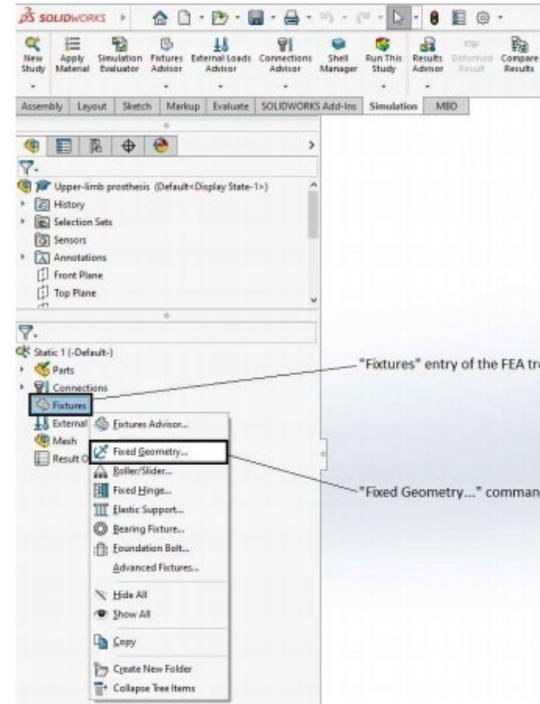
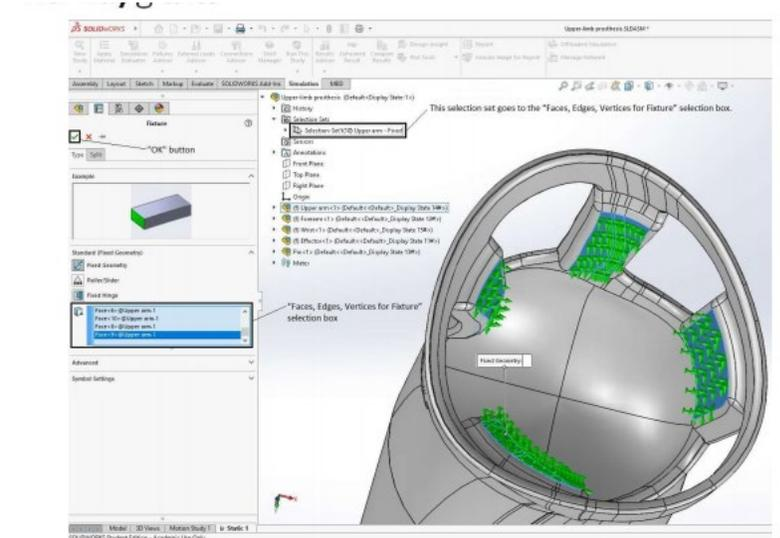

Figure 20: Defining full locking boundary conditions
Figure 21: Full locking boundary conditions defined on some inner surfaces of the upper arm
h) Press the right button of the mouse on the “Fixtures” entry of the FEA tree and select the “Fixed Geometry...” command in the drop-down menu (Fig. 20). Perform the following actions in the “Fixture” dialogue box to define a full locking boundary condition on some inner surfaces of the upper arm (Fig. 21):
- Select “Selection-Set1(10) Upper arm - Fixed” in the assembly tree